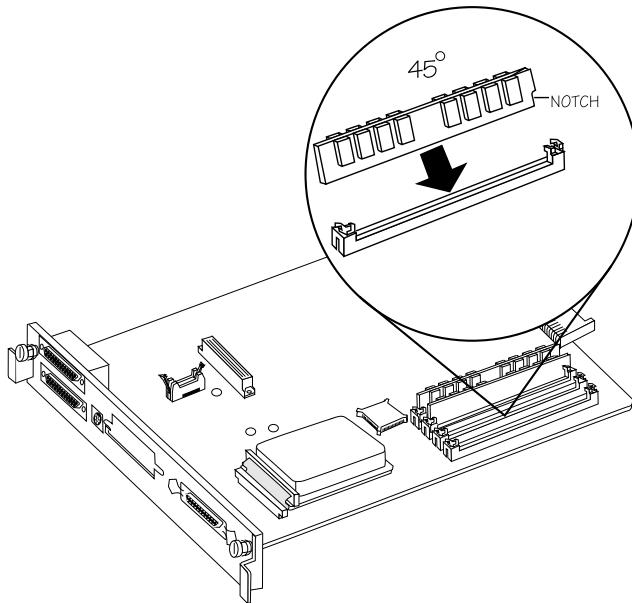

Fig. 8.15 *Insert the SIMM into the Connector*
7. Hold the new SIMM at a 45° angle, with the notch on the right-hand side (fig. 8.15). Insert the bottom edge of the new SIMM into an open connector.